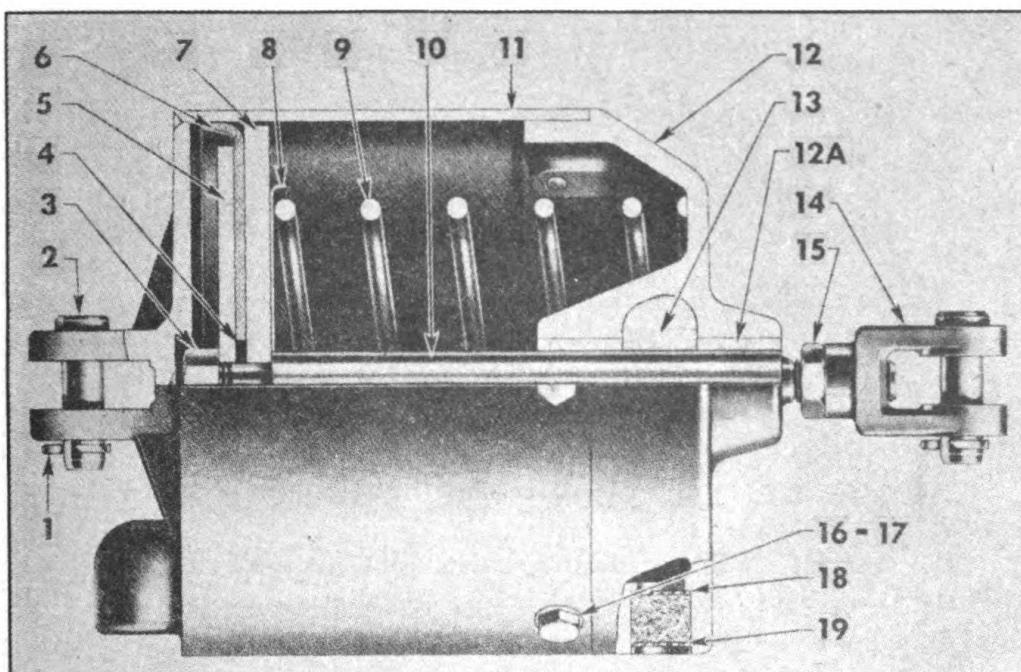
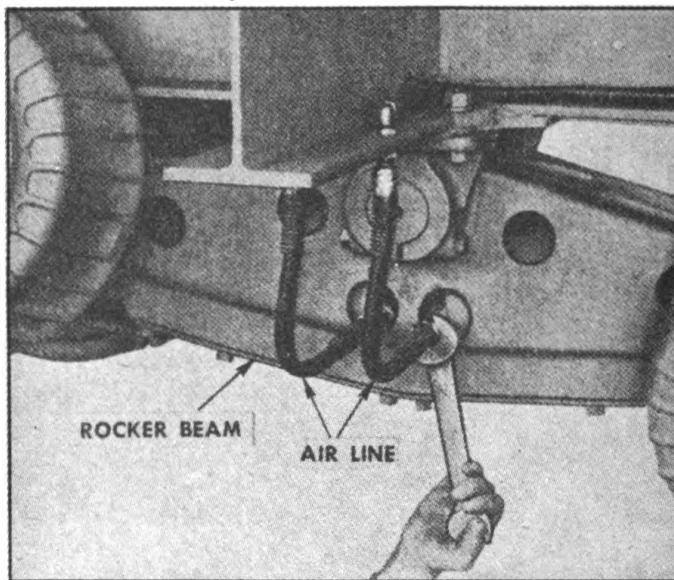

FIGURE 31. BRAKE CYLINDER—SECTIONAL VIEW
FIGURE 32. REMOVING BRAKE LINES AT WALKING BEAM
**13. BRAKE CYLINDERS** (Figure 31).—*a. Function.* The function of the brake cylinder is to convert the energy of compressed air into the mechanical force necessary to expand the brake shoes against the brake drum and apply the brakes. Air pressure from the relay-emergency valve enters port behind piston (5), air held in check by packing cup (6) moves the piston-cup assembly, and push rod (10) forward so as to rotate brake lever and apply the brakes.
*b. Removal.*—(1) Rear brakes are operated by four brake cylinders which are mounted on two plates. The plates are installed in rocker beams.
(2) Disconnect the two air lines which run to cylinders (Figure 32).
(3) Disconnect the brake rods at front and rear end of walking beam.
(4) Disconnect the two parking brake rods.
(2) Remove piston rod nut, piston follower, spacer, packing cap and piston.
(3) Piston rod may then be removed from cylinder head, if necessary.
f. *Lubrication* (Figure 31).—(1) CAUTION: (a) Whenever disassembled, cylinder parts should be thoroughly cleaned and lubricated before reassembly.
(2) Packing cup and cylinder walls should be lubricated with a good grade of light lime base grease.
(3) The felt oiler in the cylinder head (12) should be removed and the cavity around it filled with a good grade of light cup grease.
g. *Reassembly*.—(1) Reassembly of cylinder is in reverse of disassembly procedure.
(2) CAUTION: When reassembling cylinder extreme care should be exercised to make certain the packing cup is not damaged when placing the piston assembly in the cylinder.
h. *Maintenance* (Figure 31).—(1) Brake cylinder requires very little attention unless subject to extreme temperatures and difficult operating conditions.
(2) The air strainer (19) should be kept clean by periodically removing the hair and washing in cleaning fluid.
(3) Once each year the cylinder should be removed from trailer and completely disassembled. All parts should be cleaned and a new packing cup installed (6), if necessary. (See paragraph f., Lubrication, this section.)